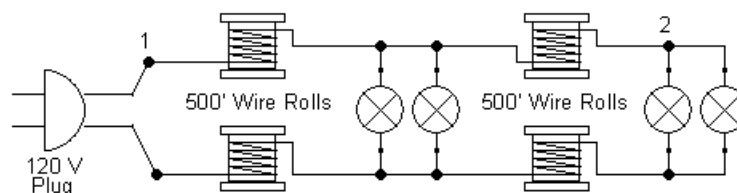

Figure 6: Circuit diagram for Mock-up with Long Circuit Lengths
- Before plugging the circuits in, measure the total resistance of the wire in between points 1 and 2 in Figure 6. You're measuring the resistance of approximately 1000 feet of wire. What is the resistance in ohms?